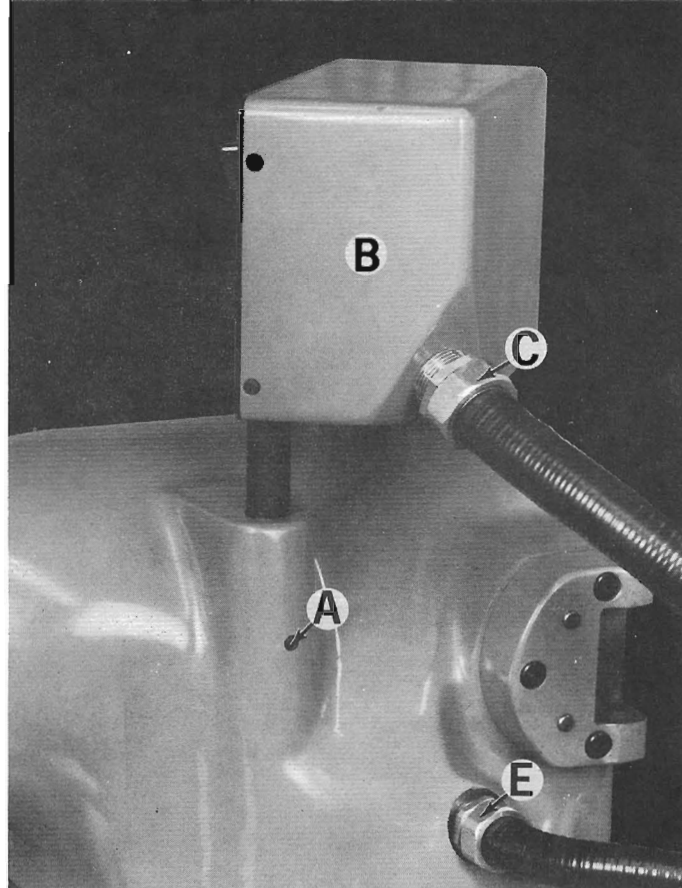

Figure 49 — Control Head from Machine Rear
3. Remove lock screw "A", Figure 49, and loosen set screw under lock screw "A". Lift control head "B" straight off. **NOTE:** It may be necessary to remove cable nut "C" to remove control head.
7. Remove cable nut "E", Figure 49, and pull wires out of rear of headstock.
5. Replace micro switch wires and cable nut "E", Figure 49.
8. Replace control head "B", Figure 49. Replace set screw and lock screw "A".